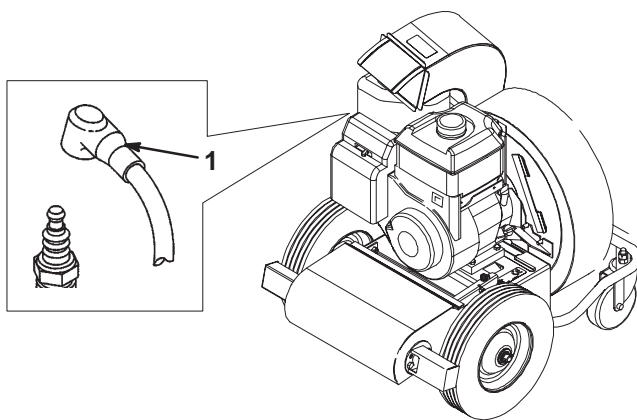

Figure 18
Disconnect the wire from the spark plug (Fig. 18) before you do any maintenance. Set the wire aside so that it does not accidentally contact the spark plug.
1. Park the machine on a level surface, stop the engine and pull the wire off of the spark plug (Fig. 18).
2. Pull the wire off of the spark plug (Fig. 18).
3. Push the wire onto the spark plug (Fig. 18).